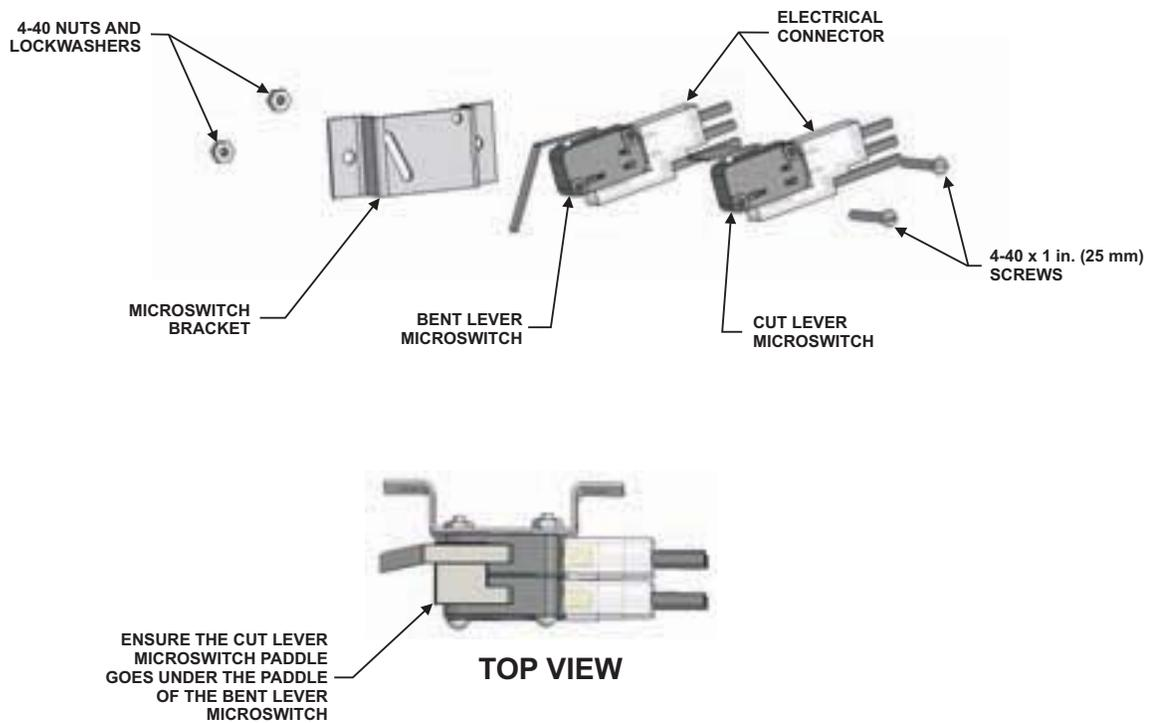

Figure 4-52. Dual SPDT Microswitches and Mounting Bracket, P/N 9197228
3. Mount the microswitches to the mounting bracket. Ensure the cut lever microswitch paddle goes under the paddle of the bent lever microswitch. Refer to Figure 4-52: